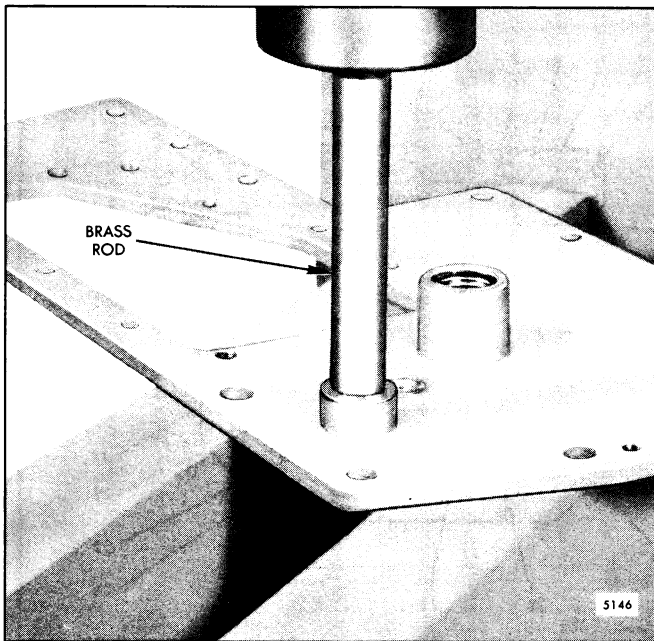

Fig. 6 - Removing Bushing From Stop Lever Shaft Opening In Cover
- j. Place the cover in an arbor press and, using a brass rod, remove the bushing from the stop lever shaft opening (Fig. 6).